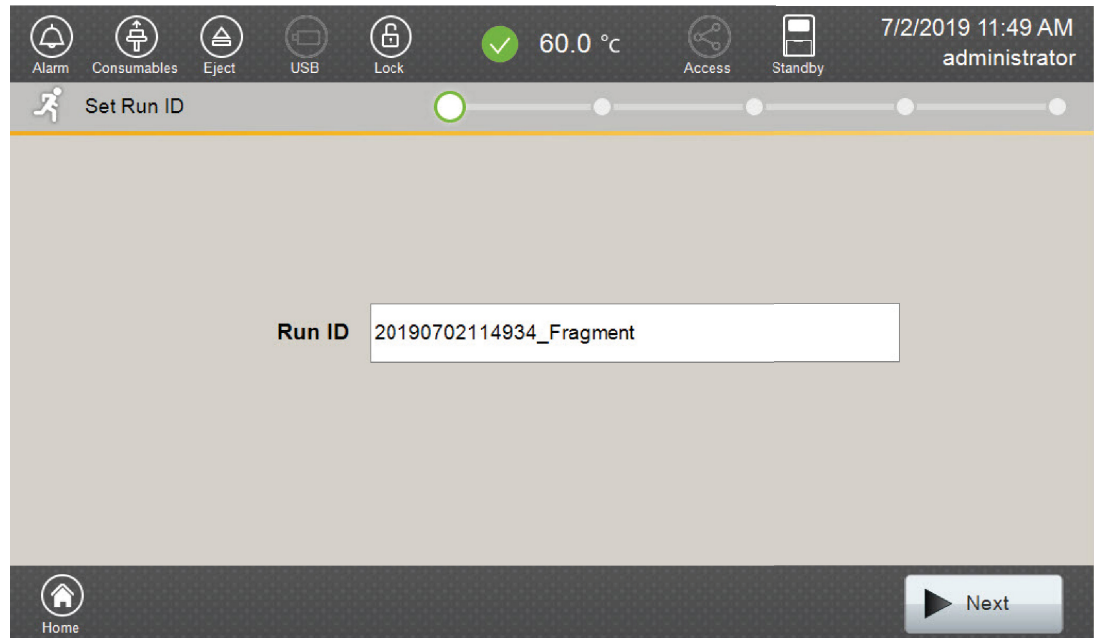

Figure 13. 'Set Run ID' screen.
4. Use the default name that includes date, time and "Fragment" or enter a Run ID on the 'Set Run ID' screen (Figure 13). Select the Run ID box to open the 'Run ID' window and a keypad will become active on the touch screen. Alternatively, the Run ID can be entered using a traditional keyboard if one is connected to the Spectrum Compact CE System.